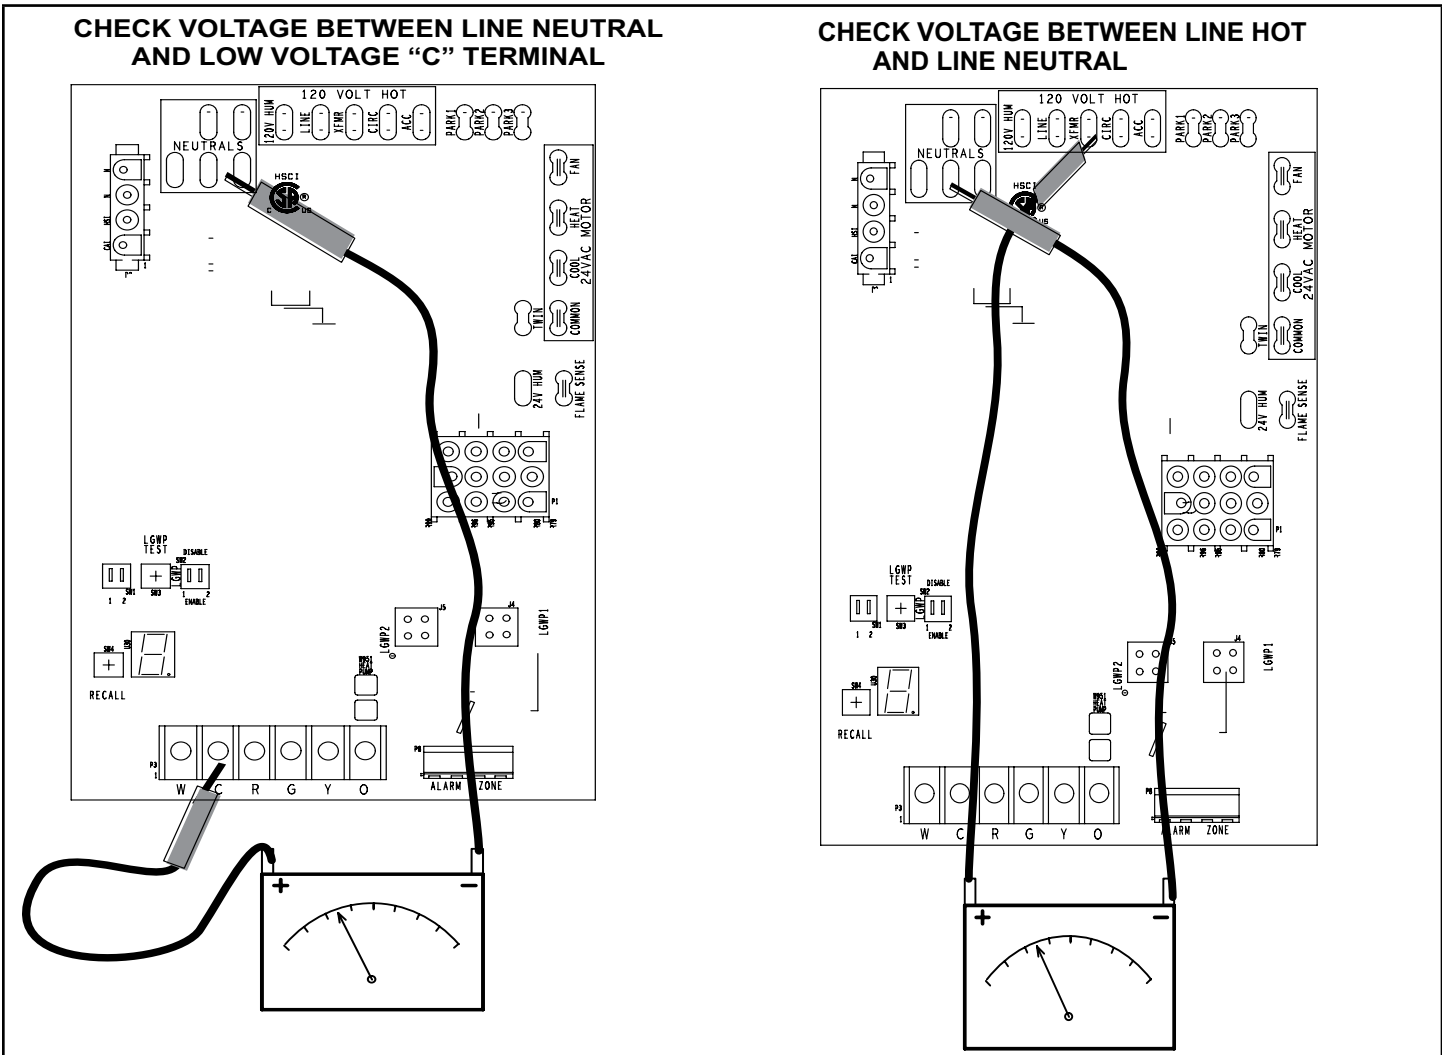

FIGURE 61
- 1 - Measure the AC voltage between Line Neutral (spade terminals) and “C” terminal (low voltage terminal block) on the integrated control. See FIGURE 61. A wide variation in the voltage between Line Neutral and “C” as a function of load indicates a poor or partial ground. Compare the readings to the table below. If the readings exceed the maximum shown in TABLE 20, make repairs before operating the furnace.
- 2 - In addition, measure the AC voltage from Line Hot to Line Neutral (spade terminals) on the integrated control. See FIGURE 61. This voltage should be in the range of 97 to 132 Vac.